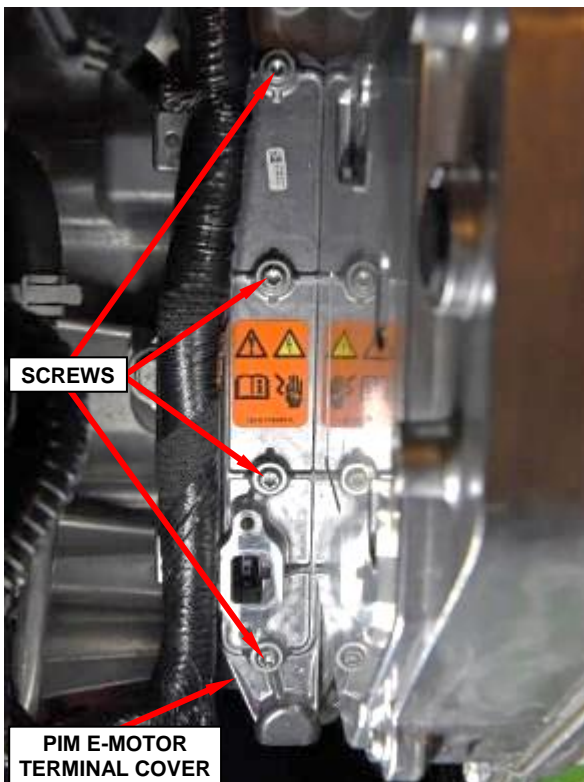

Figure 33 – E-Motor Terminal Cover
- 59. Loosen the four captured screws then remove and save the PIM e-Motor terminal cover (Figure 33).
5. Install the **new** PIM e-Motor terminal cover to the PIM. Tighten the four captured screws to 7.8 N·m (69 In. Lbs.) (Figure 33).